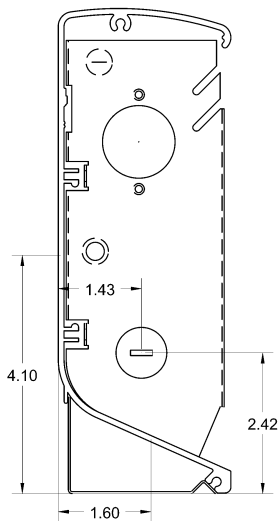

FIGURE 2
Verify input voltage and name plate voltage of heater for compatibility. Wiring can be done from either end of heater. A inside or outside corner section is available for right angle mounting of two baseboard heaters and allowance should be made for locating wiring. See Figure 2 for knockout locations.
2. Determine which end the power supply will enter the heater. (This heater can be wired from either end). Drill the appropriate hole into the wall or floor for the power supply, see Figure 2 for knockout locations. Make sure that the electrical power supply is disconnected at the circuit breaker panel.
4. Remove the front cover of the baseboard. The front cover is snapped on the element retainer brackets. Position the heater on the wall and determine the stud locations. Drill 3/16 inch holes in the rear enclosure using the drill guide, see Figure 2. Secure the heater to the wall with minimum #8 screws 1 inch long. Snug the heater up against the wall then back the screws off about 1/2 inch to allow for expansion. If a stud is not available use the appropriate fastener such as toggle bolts or molly screw anchors for hollow walls or screws and anchors for masonry walls.